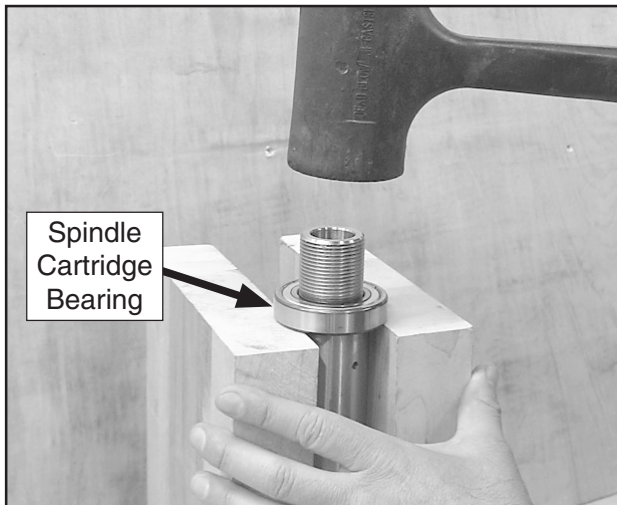

Figure 62. Removing the spindle cartridge bearing.
10. Place the spindle cartridge between the 2x6's, as shown in **Figure 62**, then carefully use the dead blow hammer to force the cartridge down until the first bearing is removed.